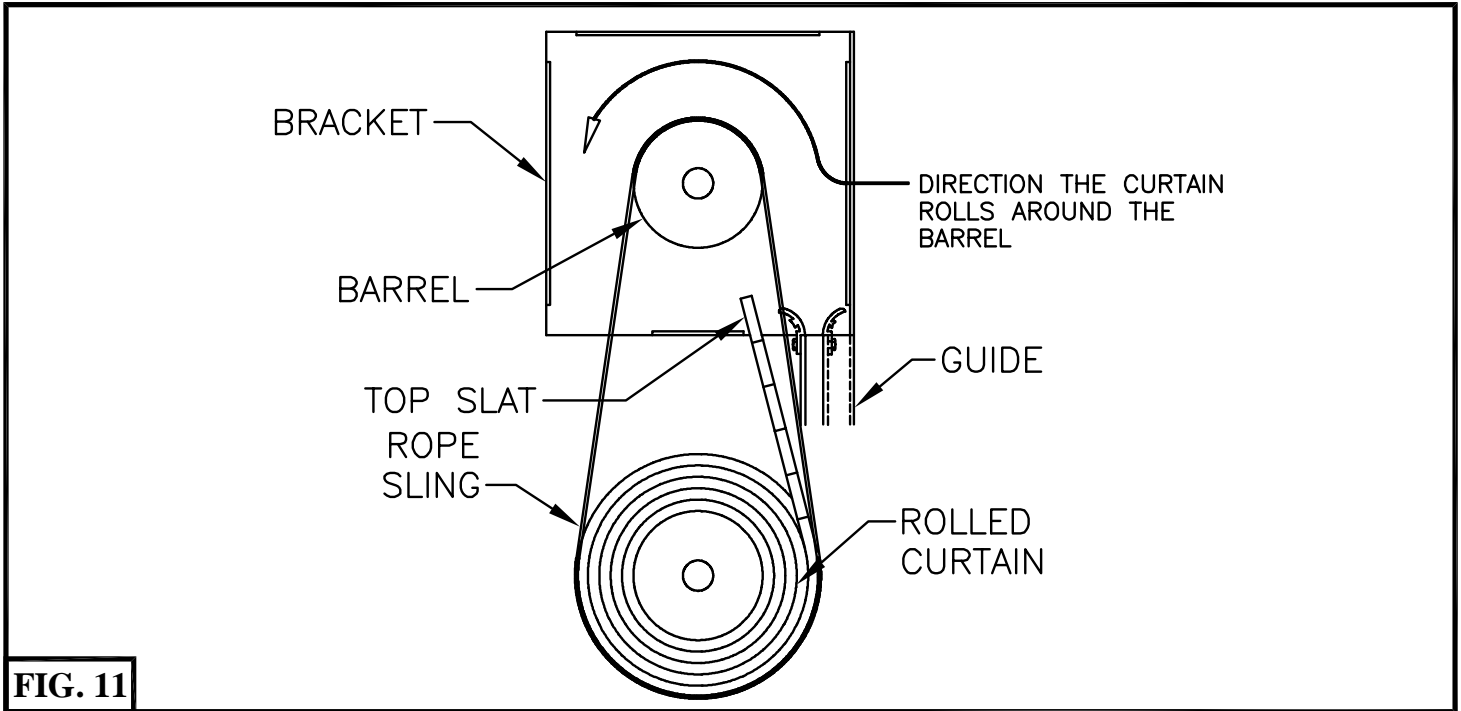

FIG. 11
- 1) With the curtain rolled up (as shipped from the factory) place it in slings below the barrel as shown below in Fig. 11. The slings may be made from soft cotton clothesline or other material that will not scratch the anodized finish.